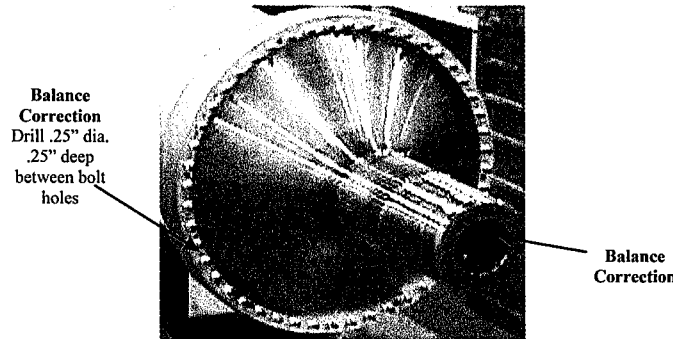

Figure 16 - Weight Removal Location for Forward Sub Assembly Balance
- j. Use the two plane method to balance the subassembly within 12 gram-in (.4233 oz-in) of static balance. Verify that the single plane balance tolerance was met in order to be customer compliant. All balance tooling and proposed balance procedures shall be provided by the refurbisher and approved by customer prior to balancing. Note weight removal locations. (See Figure 16)